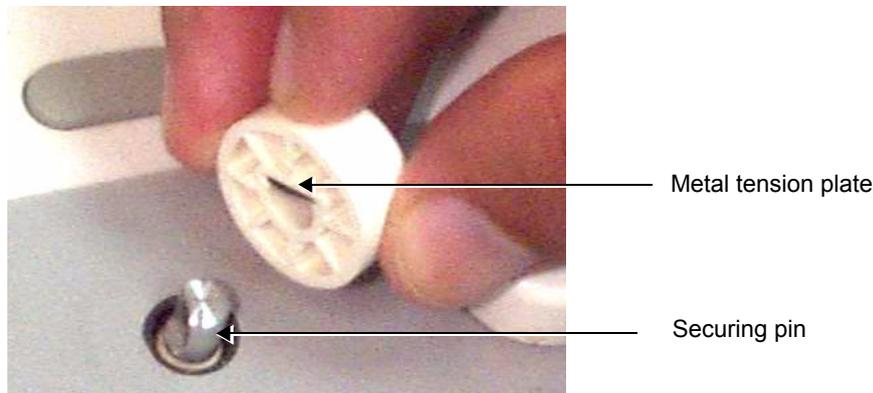

Figure 8-29 Tension Plate Fitted in Centre of Knob
- 4.) Carefully take out the metal tension plate from the centre of the knob (refer to Figure 8-29 on page 8-31), before discarding the defective knob. **Do not discard the tension plate.**
- 1) Using a new rotary knob, insert the metal tension plate (removed in step 4 above) into the centre of the knob, aligning the plate correctly with the notches on each side of the hole. The plate, which is slightly curved (to provide tension), should be positioned with the curved surface facing towards the center of the hole, as shown in Figure 8-29 below.
- 2) Carefully place the new rotary knob into position on the securing pin, taking care that the tension plate remains in position inside the knob, while aligning the core of the knob base with the flat-sided notch on the securing pin - see Figure 8-29, above.